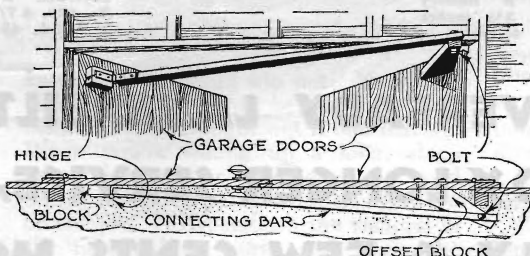

Fig. 3. Side and top views of the ingenious device for making double doors open at the same time.
G. Solomon, of Puerto Plata, Santo Domingo, wins this month's ten-dollar prize for his suggestion of a garage door opening device (Fig. 3). Each month Popular Science Monthly awards \$10, in addition to regular space rates, for the best idea sent in for motorists. Other contributions used are paid for at the usual rates.
**FIGURE 3** shows a novel fitting for any double garage doors. It is designed so that when you open or shut the door at